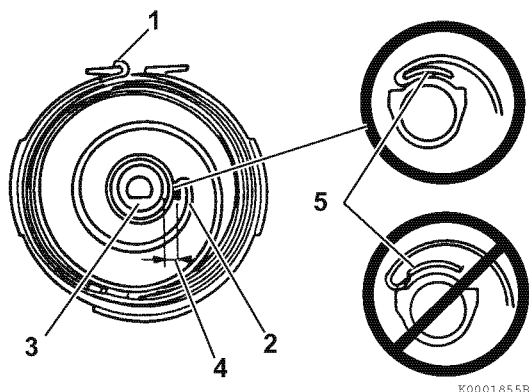

Figure 8-41
1. Securely hook the spring end to the starter housing (1, **Figure 8-41**). Install the recoil spring by carefully winding it into the housing as shown (5, **Figure 8-41**).
- Adjust the shape of the inner end (2, **Figure 8-41**) of the spring so it is about 0.157 in. (4 mm) (4, **Figure 8-41**) from the starter spindle (3, **Figure 8-41**).
- Lightly lubricate the spindle with lithium-based multipurpose grease (3, **Figure 8-41**).
- Place the reel (3, **Figure 8-41**) into the housing (1, **Figure 8-42**). Be sure the boss (5, **Figure 8-41**) on the reel (2, **Figure 8-41**) engages the spring inner hook.